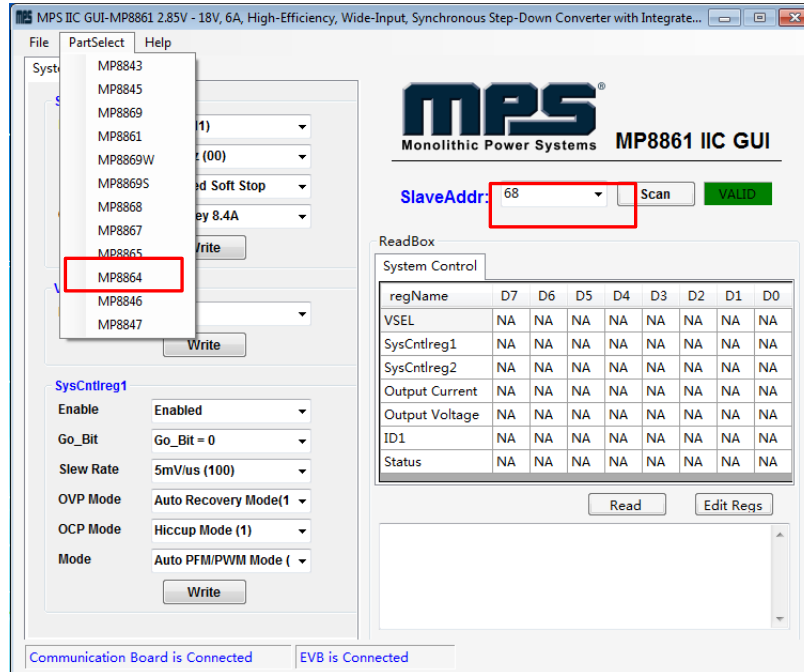
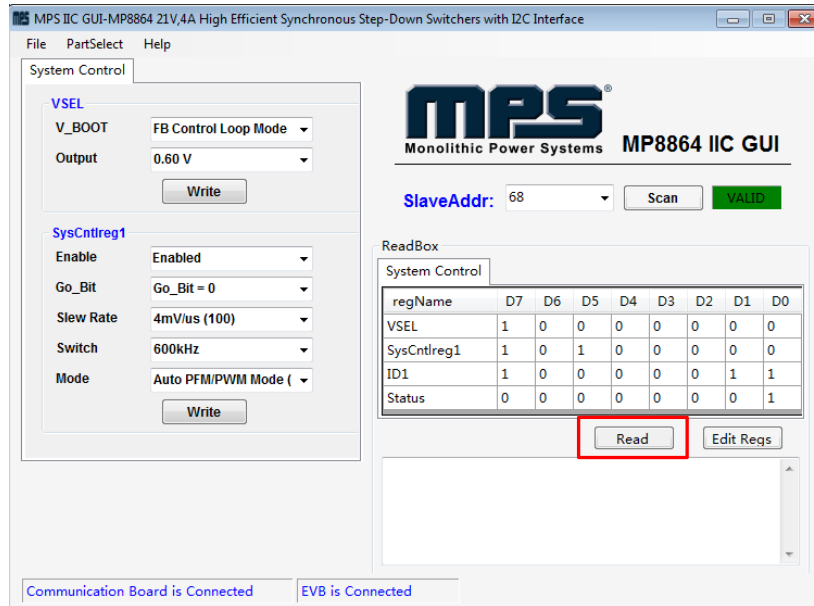

Figure 7: Appearance of Address Shows Successful Connection
Figure 9: Values from I2C Shown in Table
- If the connection is successful, the address will be listed in the “Slave Address” (see Figure 7).
- 2) “Device is not available. Please check the Connection!” This means that the USB I2C communication interface is not connected (see Figure 9).
- Click the **PartSelect** button to select the MP8864 (see Figure 7) (The default GUI window is for the MP8861). The Register Control menu will appear on the left side. I2C register values will be read and displayed on the right side after clicking **Read** button (see Figure 9).